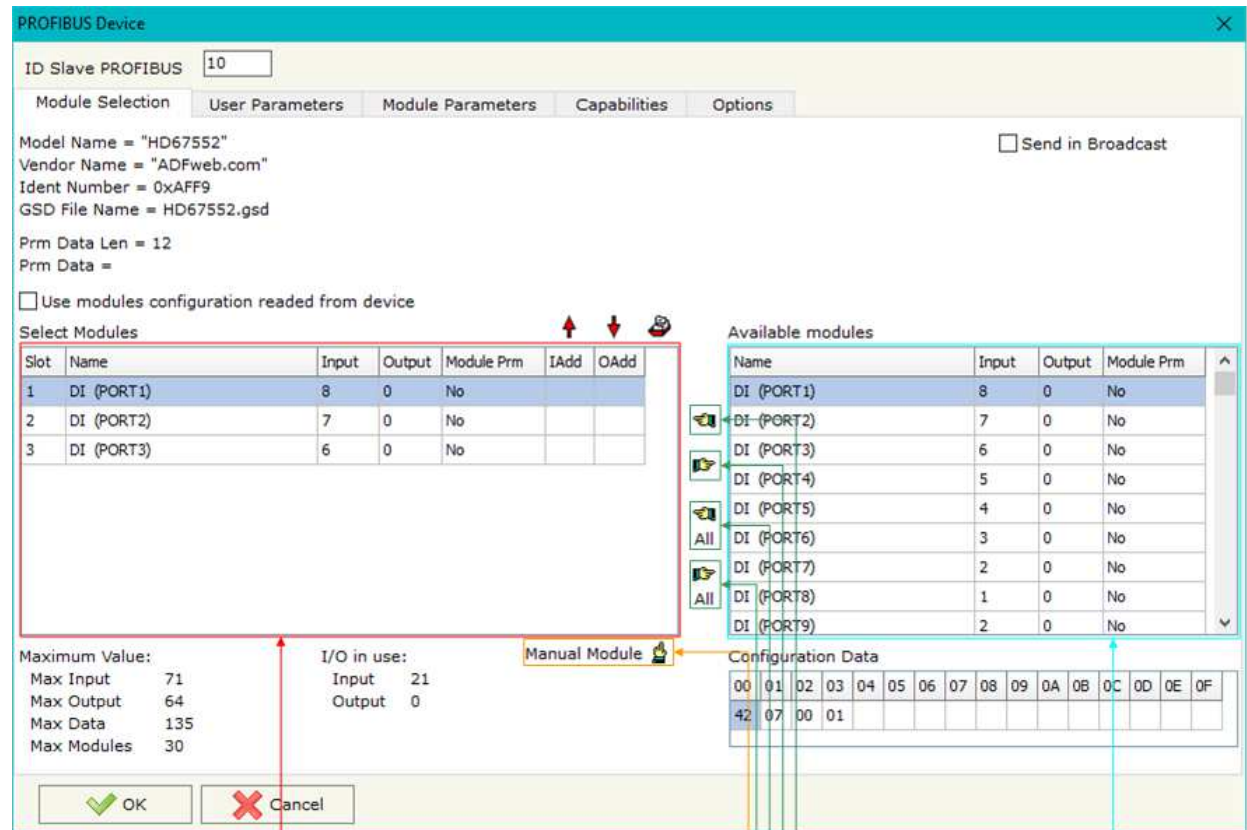

Figure 7: "PROFIBUS Device – Module Selection" window
The section "Module Selection" is used to select which Modules are present in the Slave (Fig. 7).
- Check the list of the Modules selected ("Select Modules") (Fig. 7, point (1)) and the list of Modules Available in GSD file ("Available Modules") (Fig. 7, point (7));
- Add a Module from the list of GSD file (Fig. 7, point (6));
- Remove a Module from selected list (Fig. 7, point (5));
- Add all Modules present in the GSD file (Fig. 7, point (4));
- Remove all Modules from selected list (Fig. 7, point (3));
- Insert a Module not present in the GSD file ("**Manual Module**") (Fig. 7 point (2)). For more info see the section "Manual Module" below.
To modify a Module inserted manually, is necessary to do a double click on the module to change in the "Select Module" list (Fig. 7, point (1)). It is possible to change only the module inserted manually.